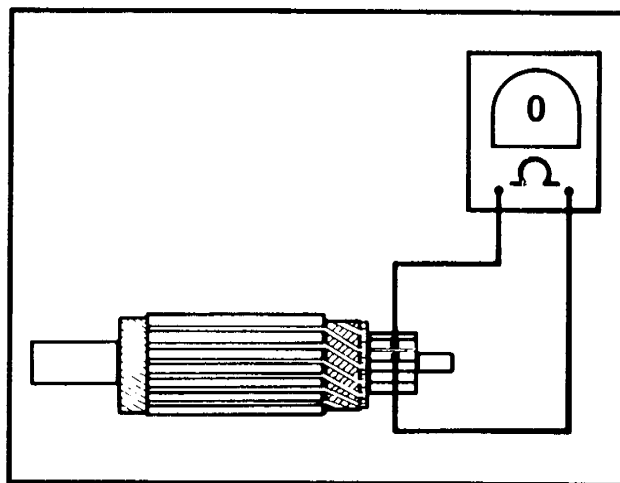

Figure 5-38. Armature Open Test
- See Figure 5-38. Check for **OPEN ARMATURE** with an ohmmeter or continuity tester. Check for continuity between all commutator segments. There should be continuity (0 ohms) at all test points. No continuity at any test point indicates armature is open and should be replaced.